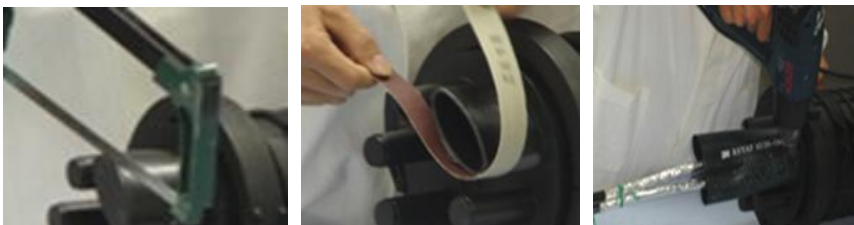
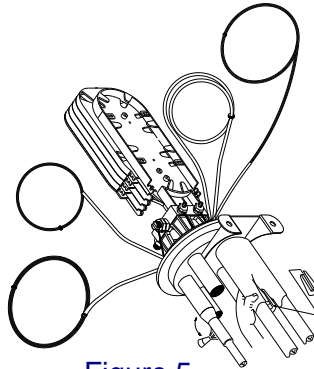

Figure 3
Figure 5
4.1 Fixed cable and heat shrinkable fixing sleeve according to the picture below. See figure 3, figure5.
See figure 5